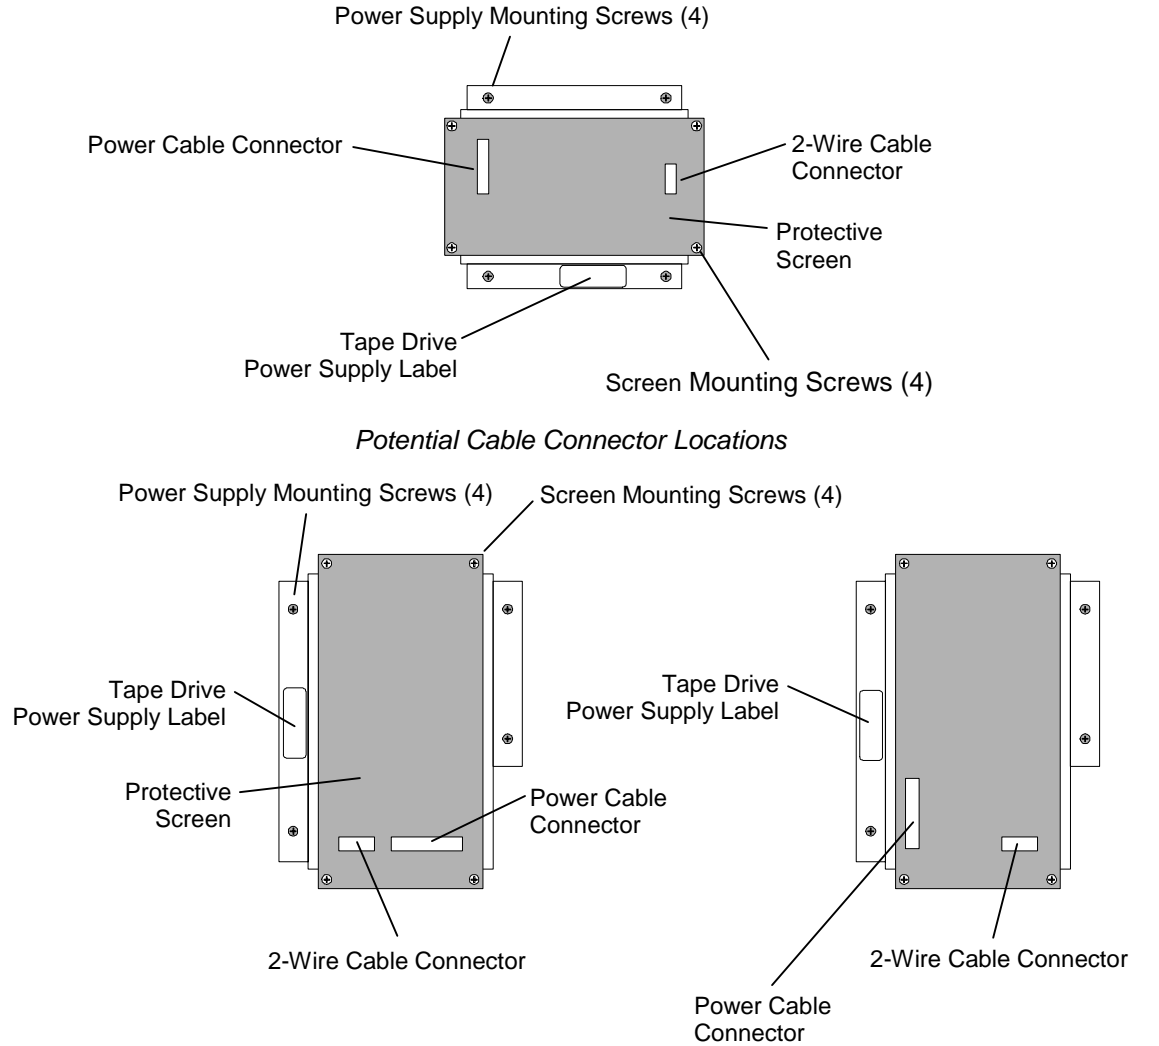

Figure 7-41 Tape Drive Power Supplies
To determine which model of Tape Drive power supply is installed in the library, remove the top and left or right side panels then read the Tape Drive Power Supply Label located on the power supply. See Figure 7-41. The label will read 500826-xx-x. Make sure that the replacement power supply has the same part number (or its equivalent) as the one that is to be removed.
See Figure 7-41
1. Insert the Power Supply into place in the side of the TLS with its connectors oriented correctly as seen in Figure 7-41.